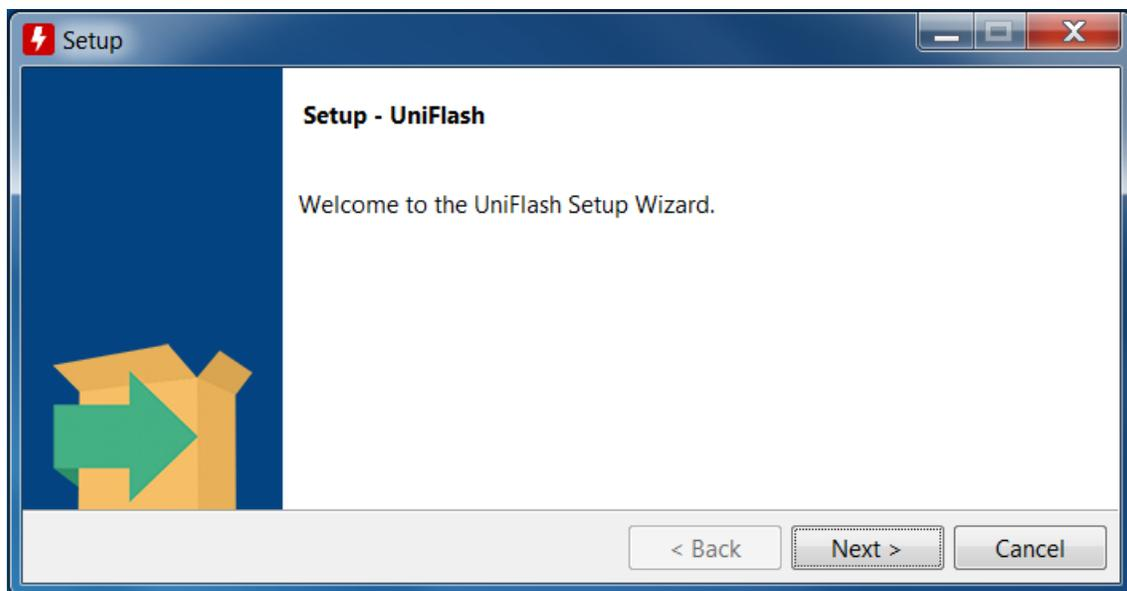

Figure 1-1. Install UniFlash
2. Run the installer by double-clicking on it. Click Next to continue, as shown in Figure 1-1.